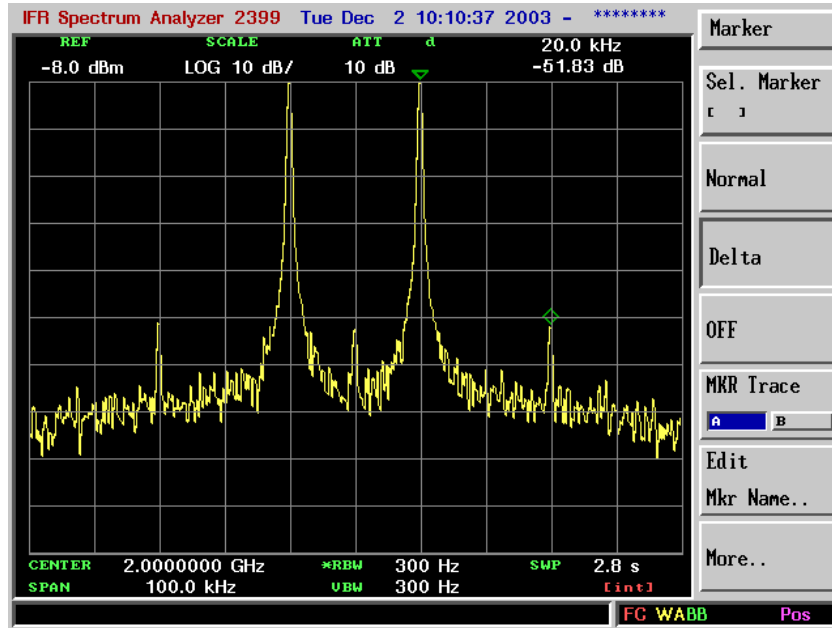

Fig. 6-6 Spectrum analyzer display showing intermodulation products
- 5 Set the spectrum analyzer to center frequency 2 GHz, span 100 kHz, resolution bandwidth 300 Hz. The trace should appear as shown in Fig. 6-6.